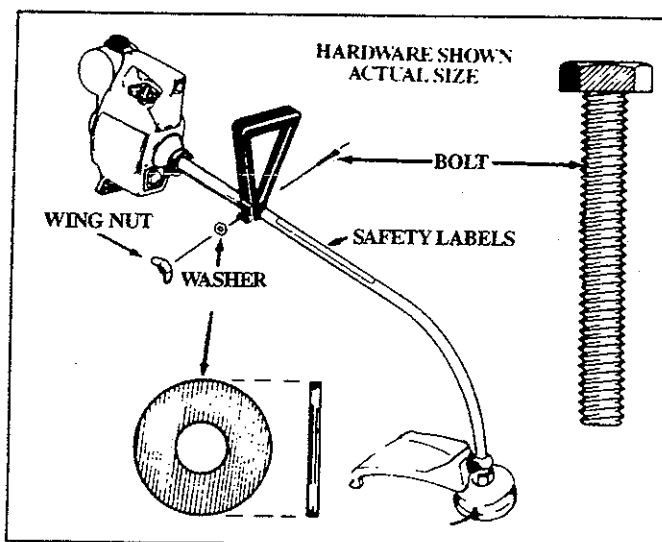

Figure 5
4. ASSIST HANDLE — Figure 5
- Hold the Assist Handle and with the hollow side facing the Engine so it is aligned between the Engine and the Safety Label on the Drive Shaft Housing. Figure 5.
- Firmly push the Assist Handle over the Drive Shaft Housing. Figure 5.
- Install the Washer and Wing Nut. Figure 5.